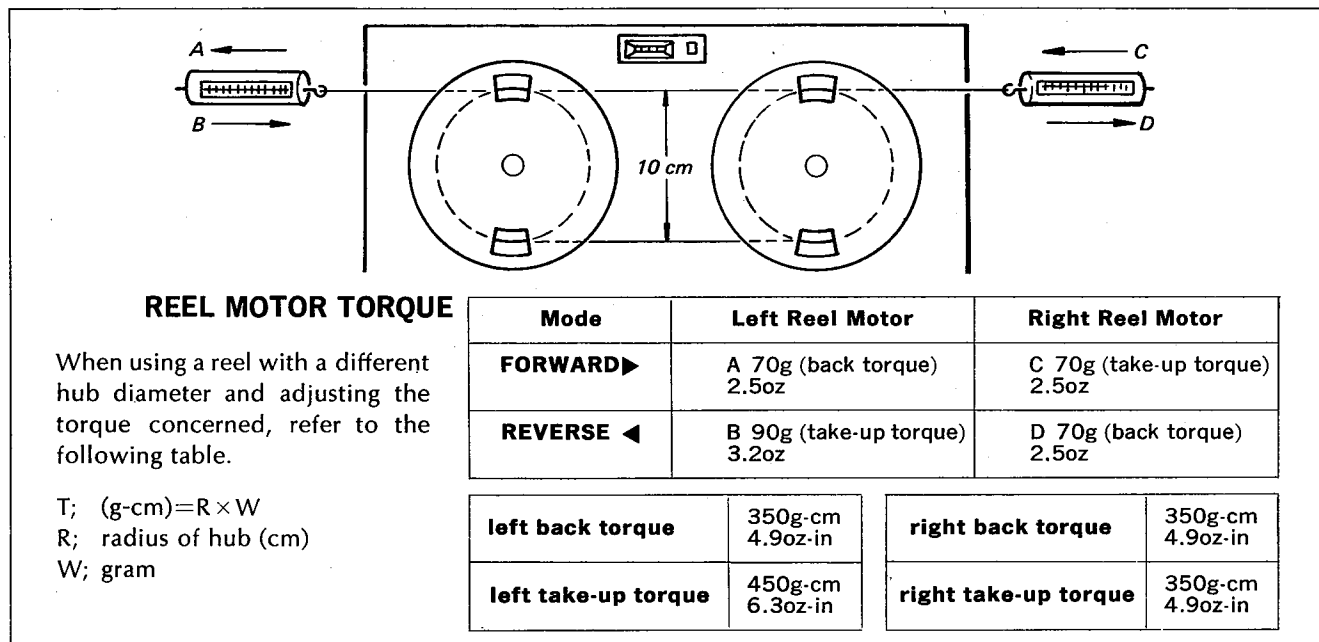

Fig. 3-2 Reel motor torque adjustment
3-2. Reel Motor Torque Adjustment (See Figs. 3-2 and 3-3)
- Set the reel hub and spring scale as shown in Fig. 3-2.
3-3. Reel Motor Torque Adjustment in Rewind Mode (See Figs. 3-2 and 3-3)
- Place the reel and spring scale on the right reel table as shown in Fig. 3-2.